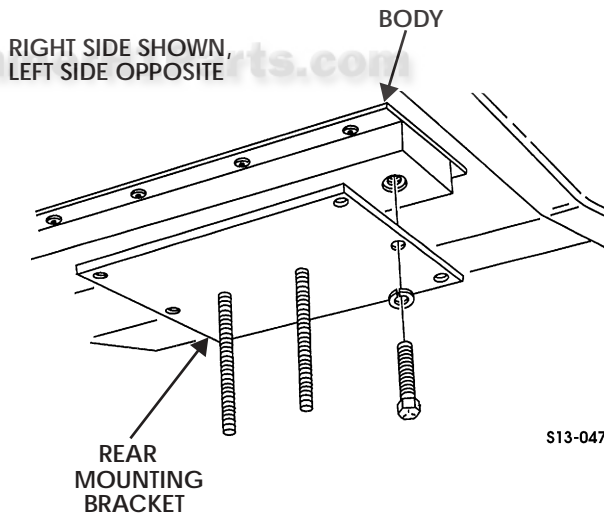

Figure 13-50: Rear Mounting Bracket
- Remove two capscrews, lockwashers, and rear mounting bracket from body (Figure 13-50).
2. Install rear mounting bracket on body with two lockwashers and capscrews. Tighten capscrews to 29-31 lb-ft (39-42 N•m) (Figure 13-50).